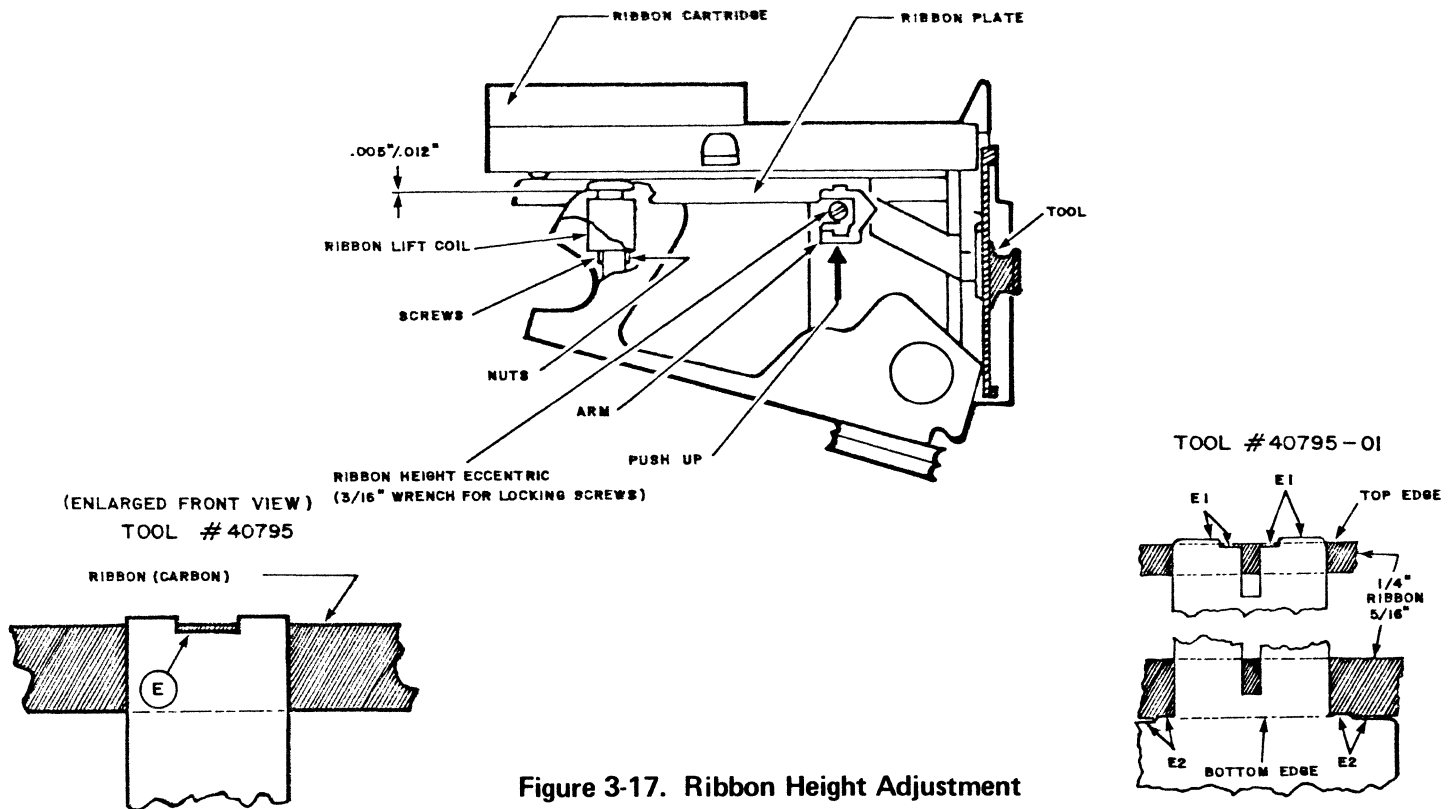

Figure 3-17. Ribbon Height Adjustment
3.4.1.4.6 Ribbon Height. Refer to Figure 3-17. Proceed as follows:
3.4.1.4.7 Ribbon Lift. Refer to Figure 3-17. This adjustment should be checked whenever the ribbon height is altered.